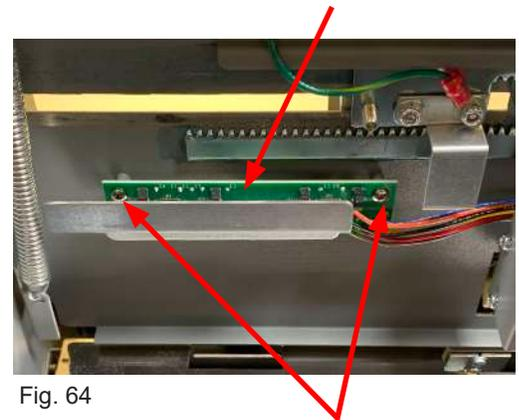

Fig. 64
4. The sensor is located under the main in-feed tray. Remove the sensor mounting screws (Fig. 64).